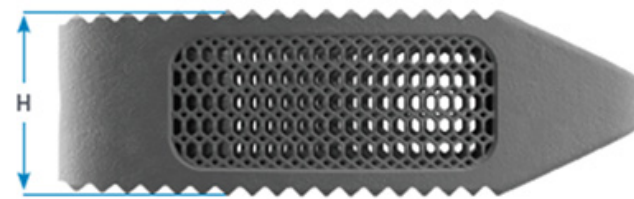

Figure 11
- All implant heights are measured from the tallest point on the implant (Figure 11).